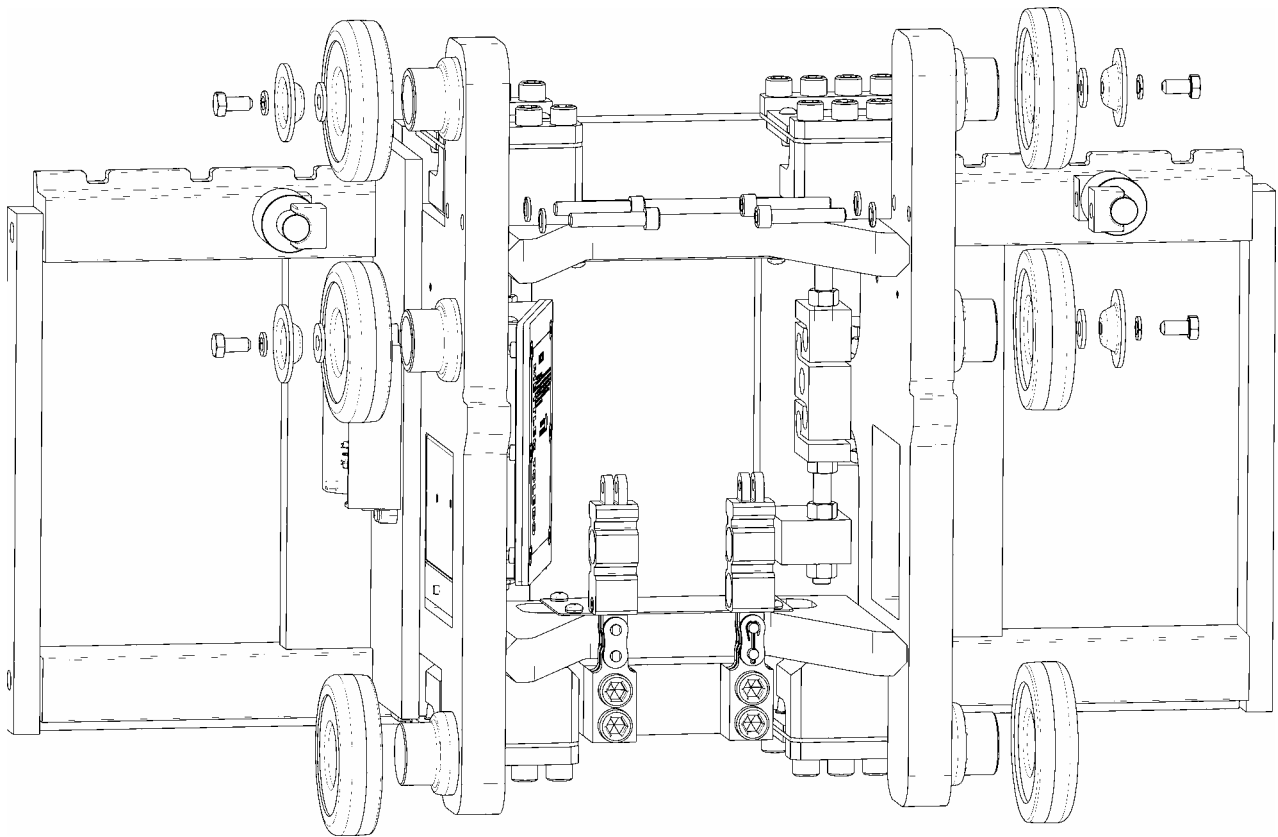

Figure 2-10: Install Main Rollers
3. Install the two lower main rollers by sliding them onto the roller shafts at the bottom of each side of the scale carriage (see Figure 2-10). Be sure to install any shims that were removed from the forklift truck's lift bracket.
4. Install the other four main rollers on the scale carriage, securing them with the bolts that were removed from the lift bracket (see Figure 2-10).
5. Mount the two side roller assemblies (including shims) on the scale carriage (see Figures 2-10 and 2-11). Align the two holes in each side roller assembly with the holes located midway between the two bolted rollers on each side of the carriage. Use two socket head screws and washers to secure each side roller assembly.